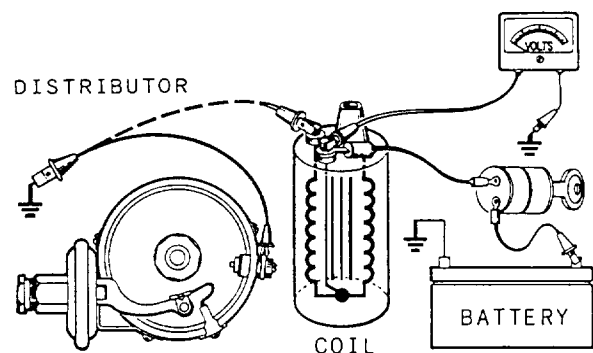

Figure 4-41. Testing ignition primary circuit.
1. Hookup the voltmeter between the switch side of the ignition coil and a good ground. The engine must be at operating temperature, but stopped, and the distributor side of the coil grounded with a jumper wire. (See fig. 4-41.)